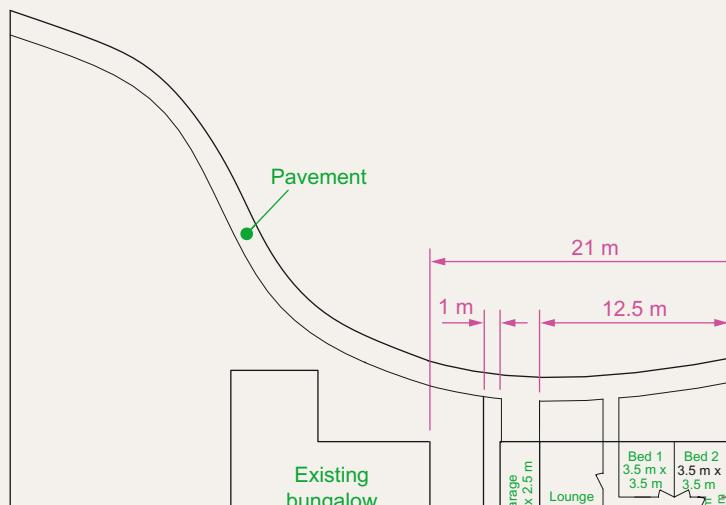
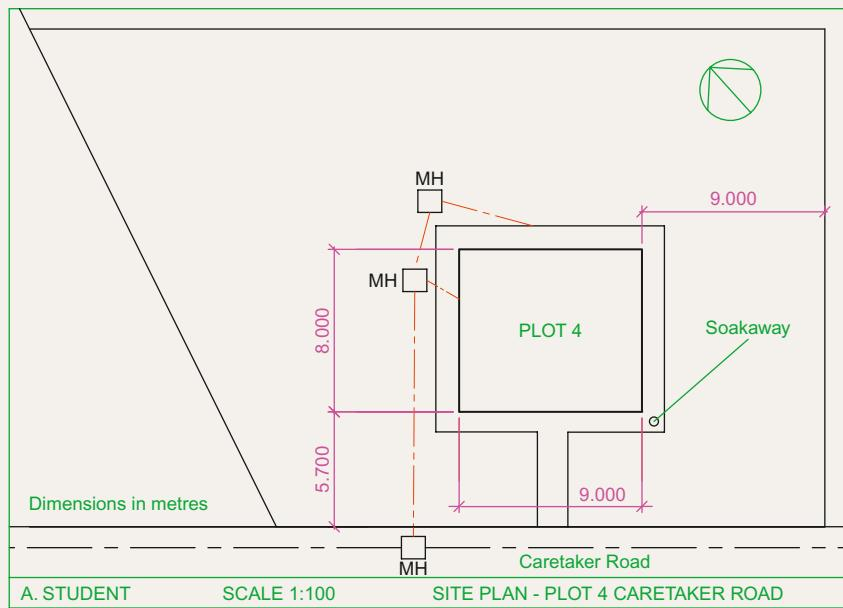
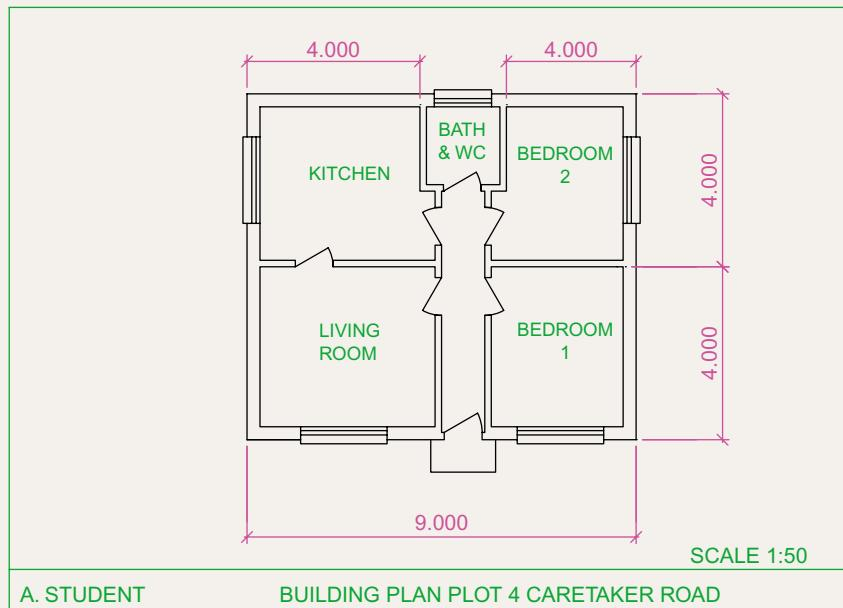

Fig. 16.28 Exercise 1
Fig. 16.30 Exercise 3 – site plan
Fig. 16.31 Exercise 3 – a building
- Fig. 16.28 is a site plan drawn to a scale of 1:200 showing a bungalow to be built in the garden of an existing bungalow. Construct the library of symbols shown in Fig. 16.8 on page 332 and by inserting the symbols from the DesignCenter construct a scale 1:50 drawing of the floor layout plan of the proposed bungalow.
3. Fig. 16.30 shows a scale 1:100 site plan for the proposed bungalow 4 Caretaker Road. Construct the floor layout for the proposed house shown in Fig. 16.28.
4. Fig. 16.31 shows a building plan of a house in the site plan (Fig. 16.30). Construct a 3D model view of the house making an assumption as to the roofing and the heights connected with your model.